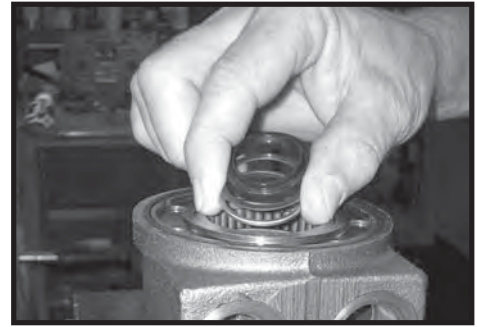
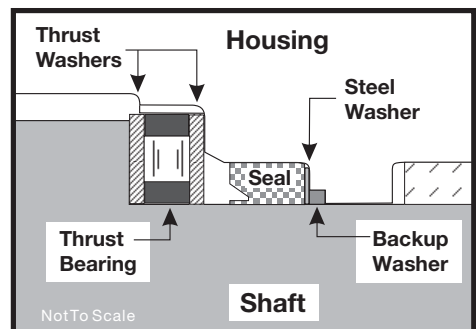

Figure 35
Figure 60
**Assemble backup washer & seal** 6. A housing (18) that did not require replacement of the bearing package will require that the two “captured” thrust washers (14) and thrust bearing (15) be unseated and vertical to the counterbore and the **new** backup ring (17), **new** backup washer (25), and **new** seal (16) be worked around the thrust bearing package and placed into their respective counterbores. The seal lip must face out of the seal counterbore and toward the inside of Torqmotor™ (see figure 60). Be sure the thrust bearing package is resealed correctly after assembly of the seal and backup washer. SEE FIGURES 35 & 36.
**CAUTION: Original design TF & TG Torqmotors™ that do not have backup washer (25) when disassembled must be assembled with a new backup ring (17), new backup washer (25), and new seal (16).**